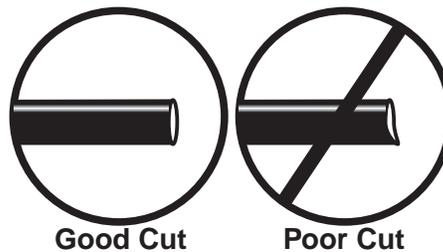

fig. 12
- Secure the emergency brake cable to the bottom bracket with supplied wire tie using the hole in the corner of the lower bracket (fig. 12).
WHEN CUTTING OR TRIMMING THE AIR LINE, USE A HOSE CUTTER, A RAZOR BLADE, OR A SHARP KNIFE. A CLEAN, SQUARE CUT WILL ENSURE AGAINST LEAKS. DO NOT USE WIRE CUTTERS OR SCISSORS TO CUT THE AIR LINE. THESE TOOLS MAY FLATTEN OR CRIMP THE AIR LINE CAUSING IT TO LEAK AROUND THE O-RING SEAL INSIDE THE ELBOW FITTING (FIG. 12).
- a. Check the air line connection by deflating the spring and removing the line by pulling the collar against the fitting and pulling firmly on the air line. Trim 1" off the end of the air line. Be sure the cut is clean and square (see fig. 12). Reinsert the air line into the push-to-connect fitting.